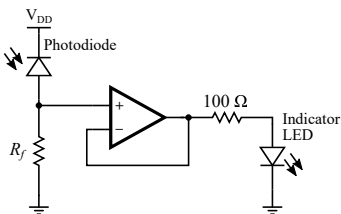

Figure 8: Receiver implementation 1.
Two receiver implementations are suggested in Figures 8 and 9.
1. Calculate the expected bandwidth (-3 dB frequency) in each implementation in Figures 8 and 9?